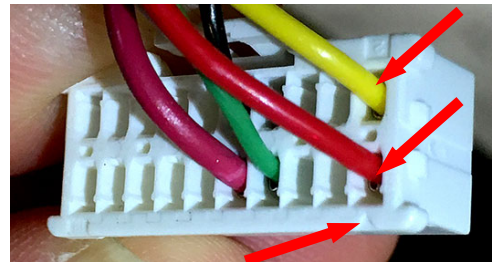

Figure 26
8. The VIB (AIF) probe is connected to pins 1 & 2 on the connector (see Figure 26). NOTE: Pin 1 is noted by an arrow in the bottom right corner.